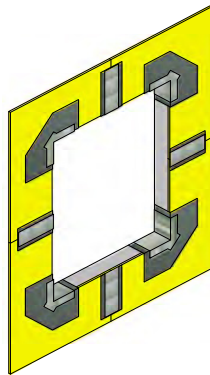

Figure 17
4. Place the MasterSeal AWB 975 FIB into the wet MasterSeal AWB. (See Figure 17).